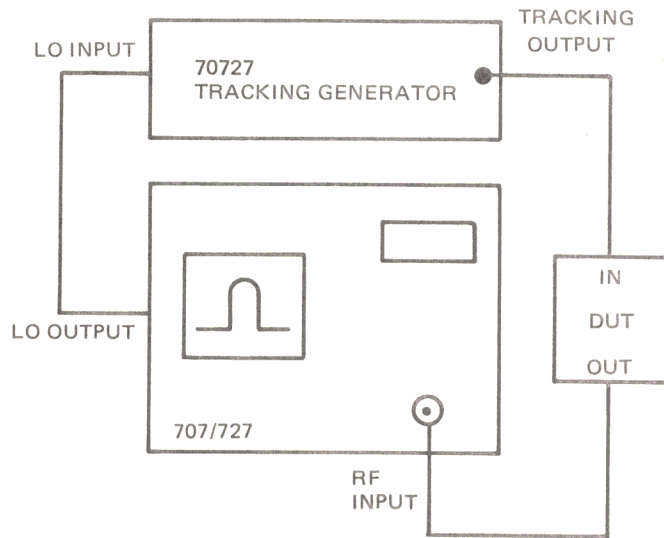

Figure 3-3. Narrowband Operation Test Connections
3. For narrowband operation, or when power is more important than flatness, peak the signal using the TRACKING ADJUST control of the generator and the Signal Center of the analyzer. Connect the output of the Tracking Generator to the device under test (DUT) and from the DUT to the analyzer. (See Figure 3-3).